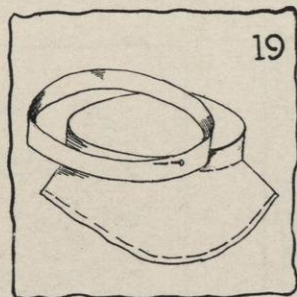

FIG. 19.
- f. If necessary, set brim on headsize band (see Figure 19) and sew with invisible back stitches on the inside of headsize, and $\frac{3}{8}$ -inch stitches on the outside of headsize.